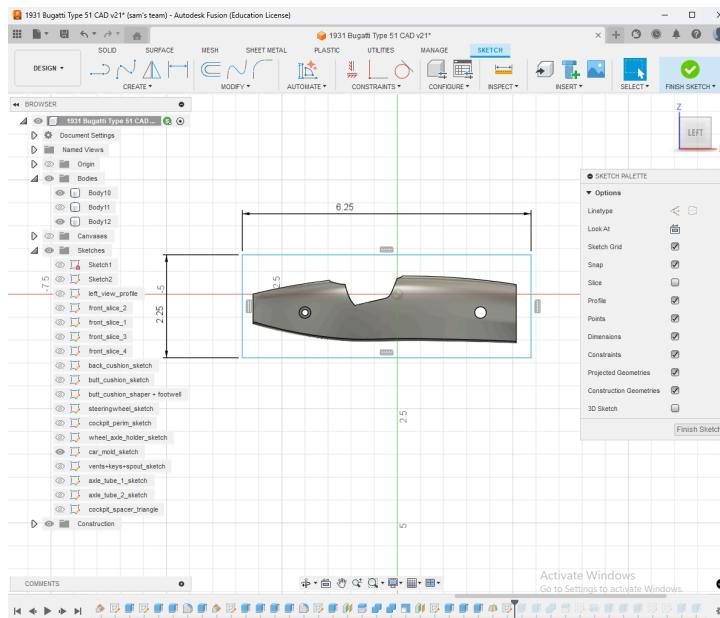

Fig. 27: Rectangular sketch that will later form mold
3. Make a rectangular sketch from the midplane of your model. This will form the mold. The dimensions of this should be 6.25" x 2.25". This will be a standardized size that will make things easier further down the road. Ensure the car is as centered as possible on this sketch, leaving some room around the sides for the addition of features later on. Check **Fig. 27** to see this process.